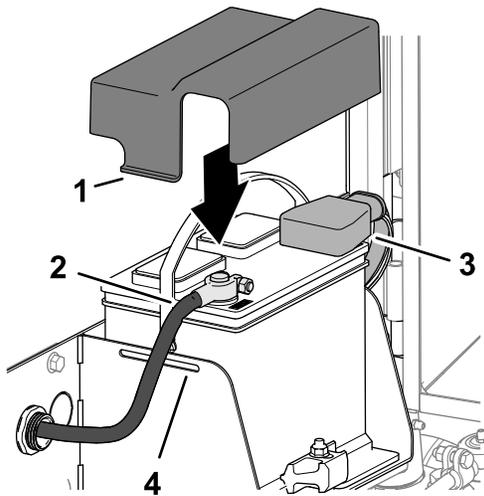

Figure 133
1. Install the positive battery cable (red) to the positive (+) battery post (Figure 133).